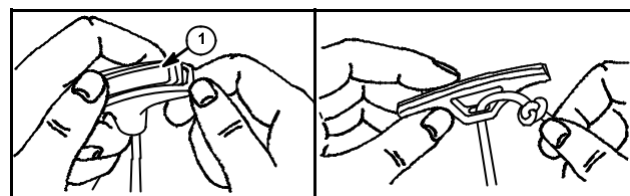

Fig. 55
12. Remove rope from grip by prying out insert (1), Fig. 55.